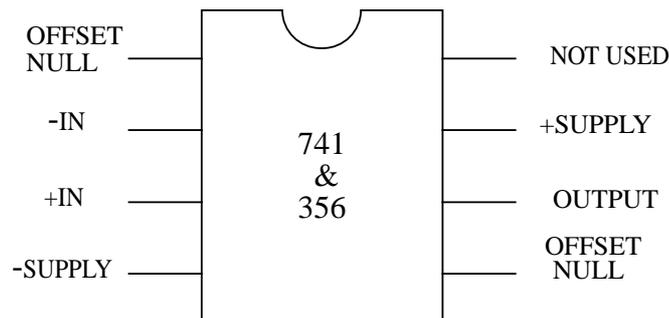

Figure 3: Pin assignments for the 741 op-amp.
- (4-4) Following your design from Pre-Lab Exercise 4-3, construct the digital-to-analog converter using a 741 op-amp and the resistors in the package obtained earlier. Figure 3 shows the pin assignments for the 741 op-amp. Do not yet connect the converter data-bit inputs to the data-bit outputs from the memory. Rather, adjust the offset voltage  $v_{\text{OFF}}$  to 0 V, and connect each input individually to the 5-V power supply while leaving the other inputs grounded. Then, measure  $v_{\text{DAC}}$  with the multimeter, and compare the measurements to the data in the table prepared during Pre-Lab Exercise 4-4 to determine whether or not the converter is functioning properly.
- (4-8) Following your design from Pre-Lab Exercise 4-7, construct the volume control stage using a 741 op amp, but do not yet connect it to the speaker. Figure 3 shows the pin assignments for the op-amp. Set the function generator to produce an unbiased 1-kHz sinusoid with a 2-V peak-to-peak amplitude and connect it to the input of the buffer. With one channel of the oscilloscope, observe the input to the volume control stage, and trigger the oscilloscope from that channel. With the other channel, observe the volume control stage output  $v_{OUT}$ . Vary the frequency of its input voltage and compare the frequency response of the volume control stage to that predicted by the table prepared during Pre-Lab Exercise 4-8 to determine whether or not the volume control stage is functioning properly.